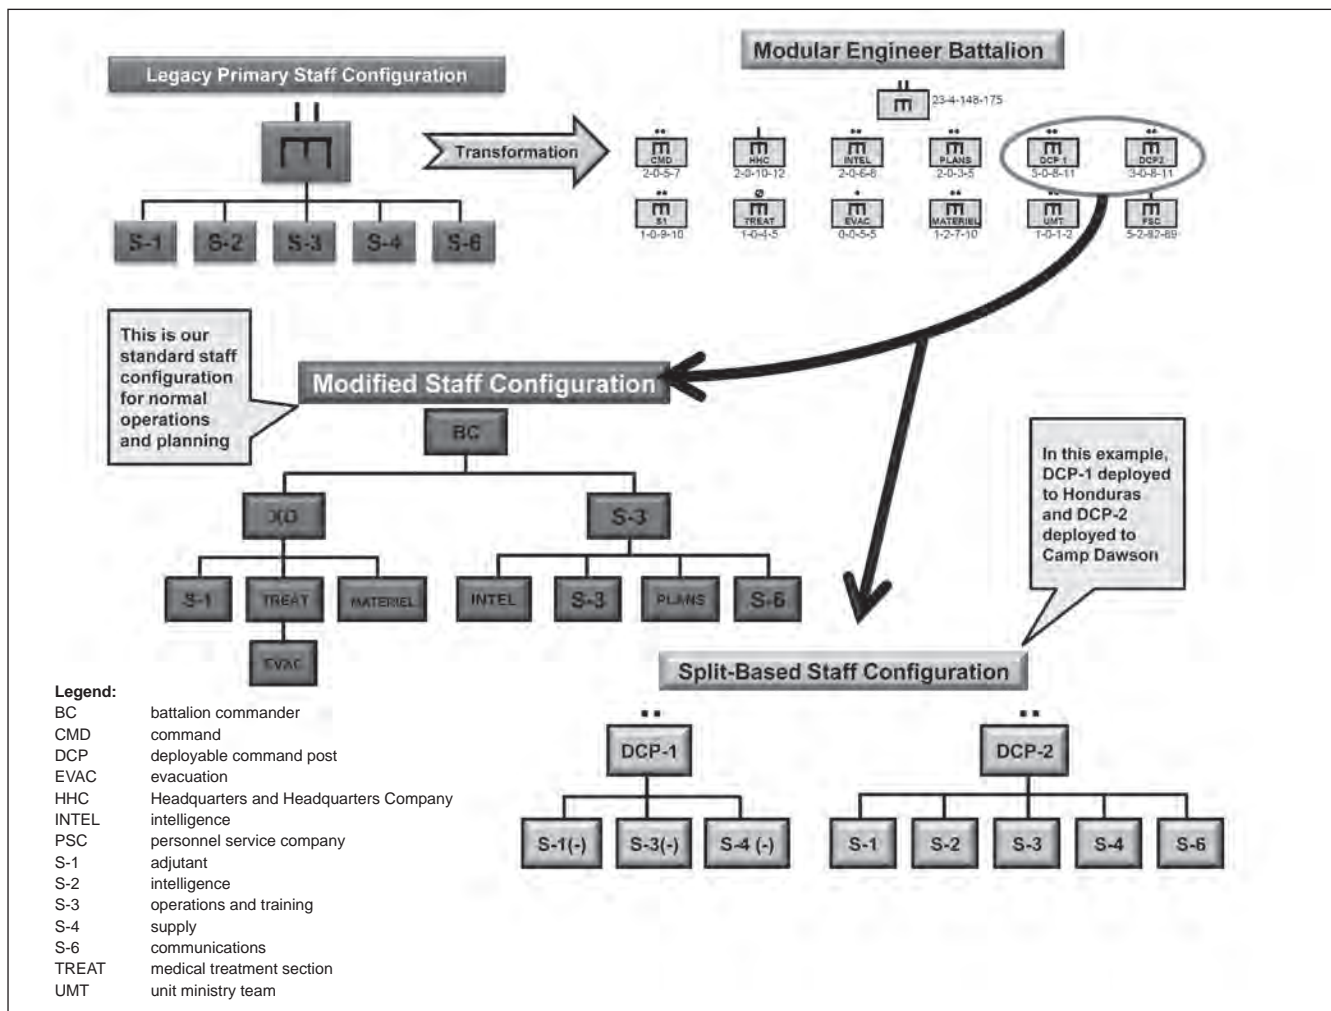

Figure 1
business was to develop DCP structures that would best fit the battalion's situation and training plan for both normal and split-based operations (Figure 1). For normal operational periods, the staff was configured in legacy functional roles with the executive officer (XO) in charge of the adjutant and supply staff primary officers, and the S-3 officer was in charge of the intelligence, communications, and S-3 section (which included plans). This staff configuration would not work for split-based operations, because not all staff functions reside under one of the battalion field grade officers. Many other situations and external influences required alterations to the standard DCP structure as well. For instance, according to doctrine, the DCP-1 commander is the battalion XO. However, in this instance, the XO was not available for the mission, so the battalion commander led DCP-1 and the S-3 officer led DCP-2.